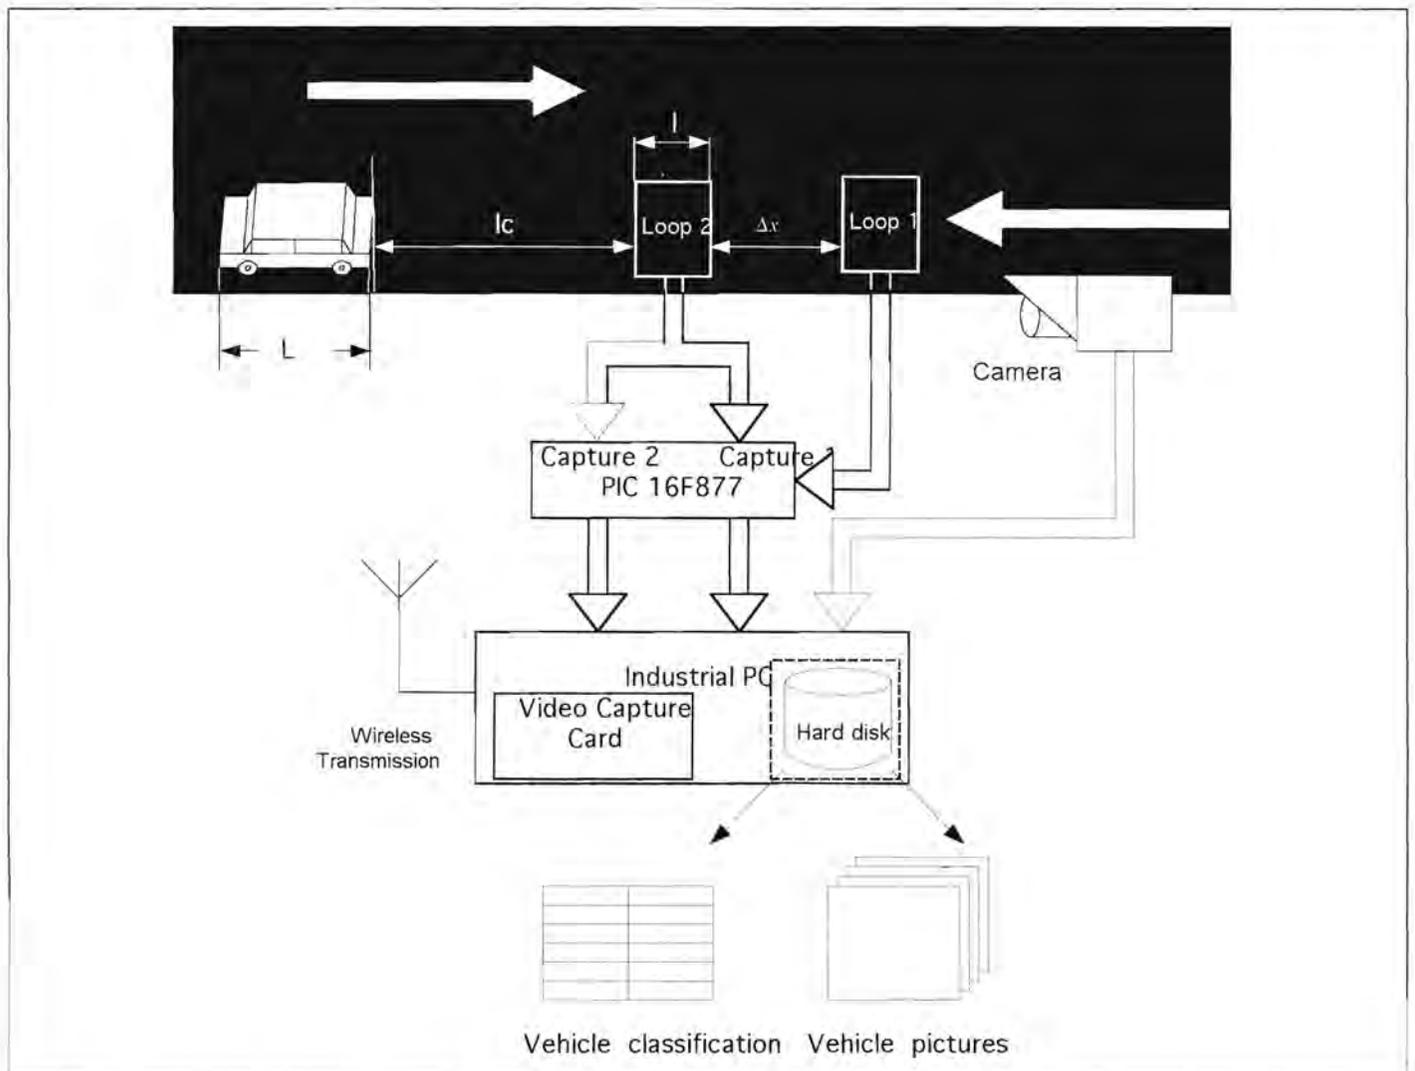

Figure 1: Block diagram of the complete system
The system is operated with an industrial PC, where the main parts of the system shown in **Figure 1** are specified as follows:
**Figure 2:** The flowchart of the program developed for the PIC MCU ( $\Delta x$ ), are used to detect the presence of the car at two different locations as shown in **Figure 1**. The detectors connected to these loops produce TTL pulses which are applied to the capture inputs of a PIC 16F877 type microcontroller. The software on the PIC microcontroller initialises a timer when a rising edge is received at the capture 1 input from the detector 1 and the measured time delay ( $\Delta t_1$ ) is recorded when a rising edge is received at capture 2 input from detector 2, as soon as the vehicle enters the second loop. This time delay is then transmitted to the industrial PC through the serial port for the calculation of vehicle speed.